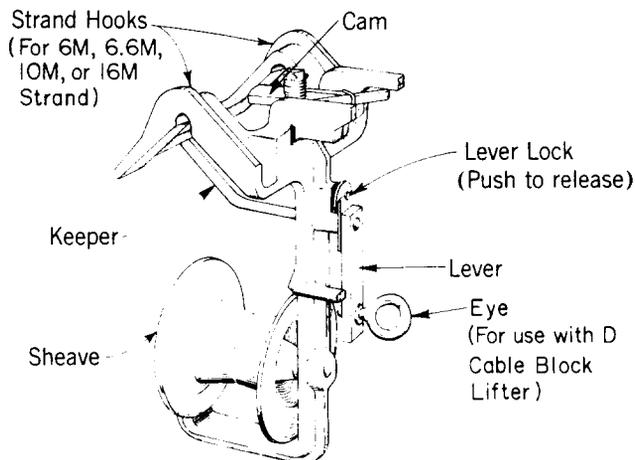

Fig. 4—J Cable Block (MD)
3.06 The **J cable block** (Fig. 4) is superseded by the K cable block. The single cam design allows the block to move along the strand in only one direction.